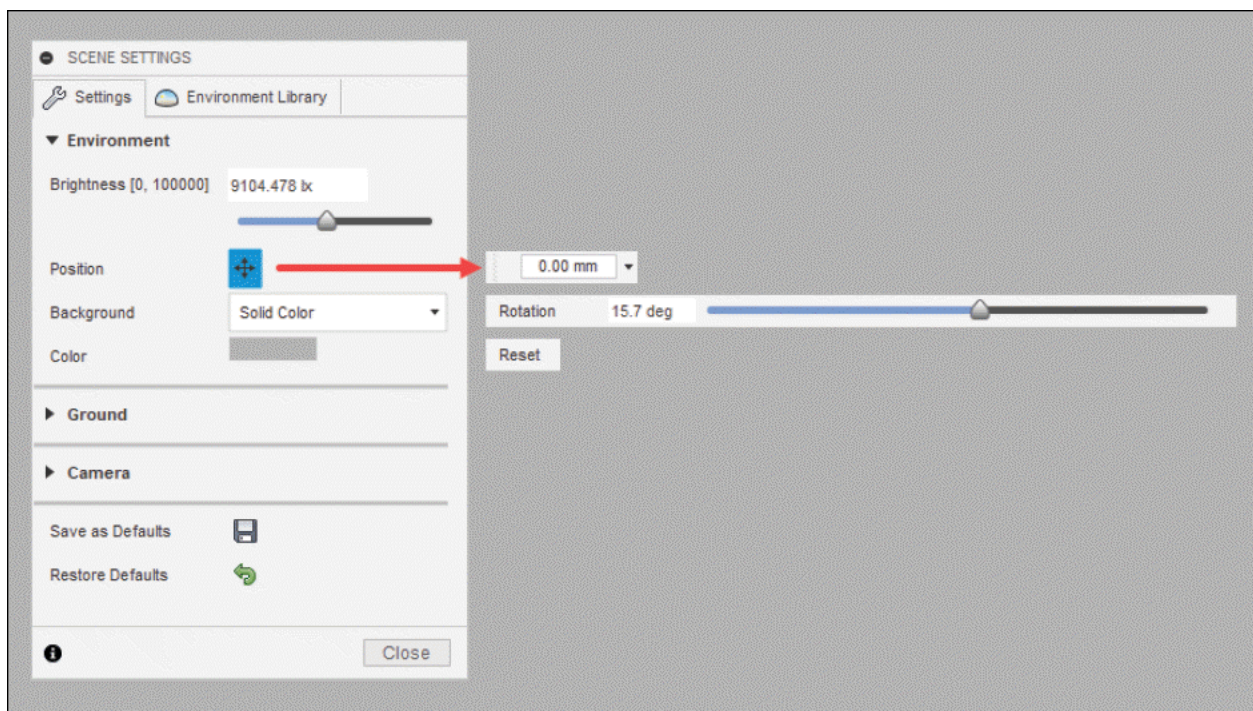

Figure-3. Tools of Position button
- If you want to control the position and rotation of lights then click on the **Position** button of **Environment** section from **Settings** tab. The drag handle along with some tools will be displayed on the canvas screen; refer to Figure-3.